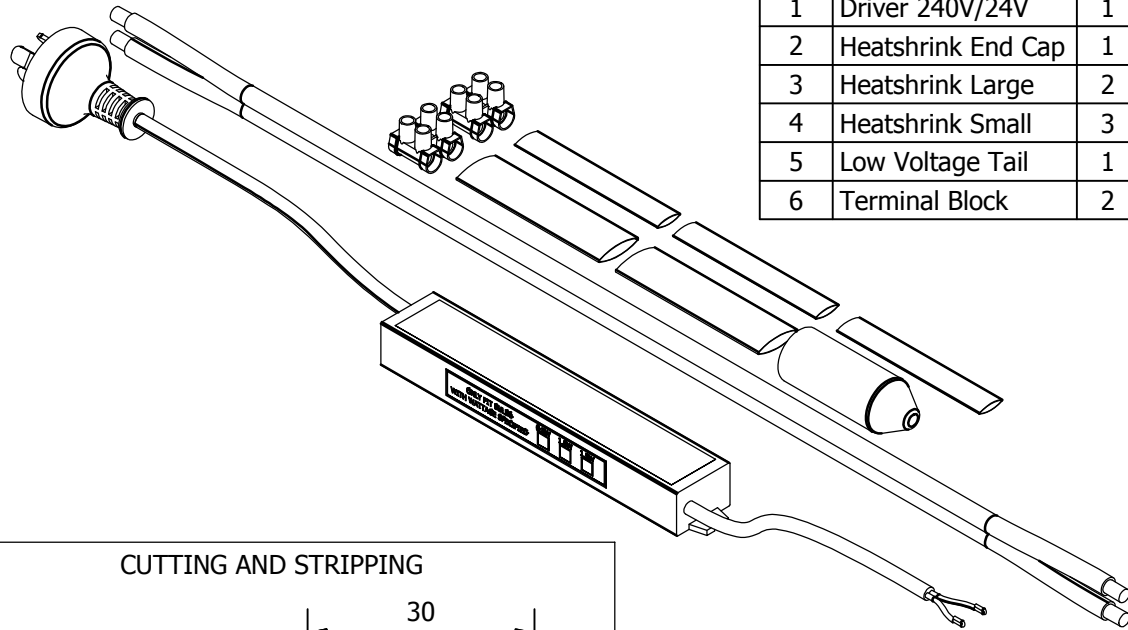

Fig. 1
- 1) Check the list of components. (Fig.1)